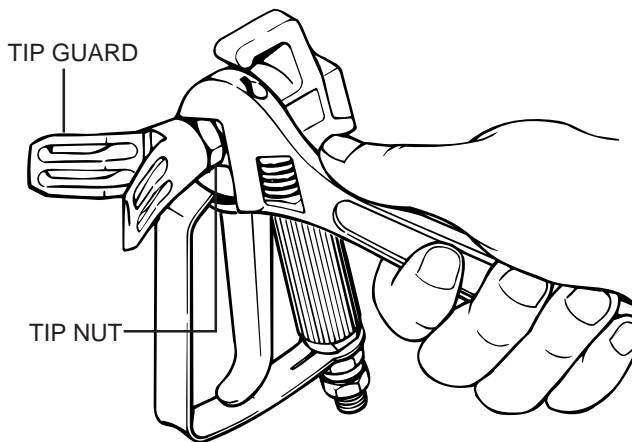

Figure 5.-Tightening Spray Gun Tip.
- Tighten tip nut. The tip guard should now be in the proper position. See Figure 5.